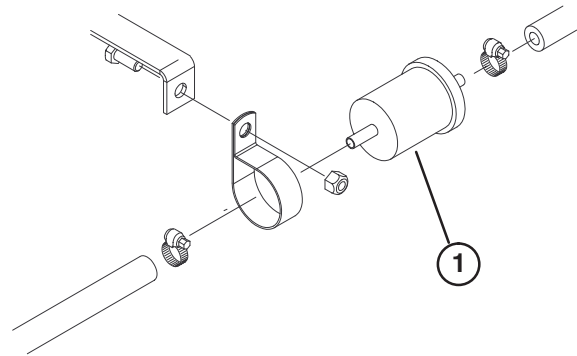

Figure 43
Replace the fuel pre filter (Fig. 43), located between fuel tank and fuel pump after every 400 operating hours or yearly, whichever occurs first.
1. Clamp both fuel lines that connect to the fuel filter so fuel cannot drain when lines are removed (Fig. 43).